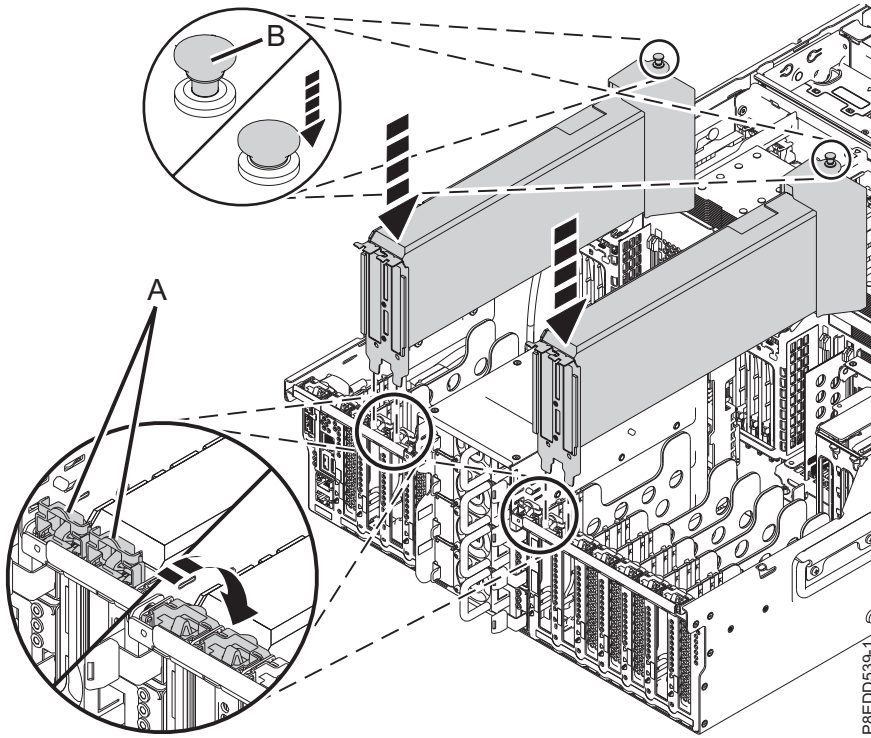

Figure 45. Installing the GPU adapter
- a. Install the GPU adapter into its PCIe adapter slot location. Press down on the locking latch (B) and close the adapter latch (A) by rotating it in the direction shown. See Figure 45 on page 43.